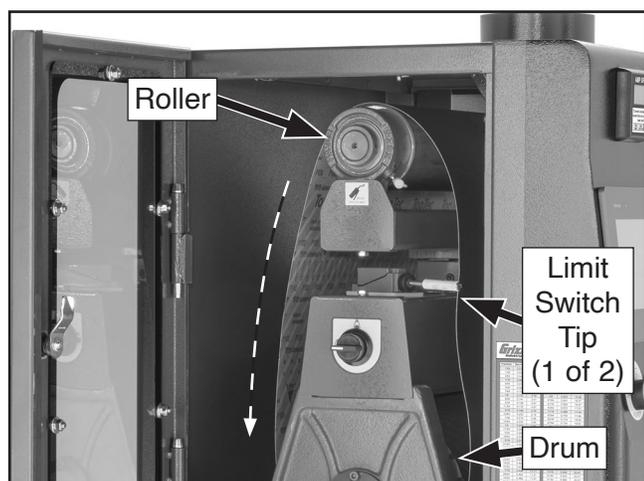
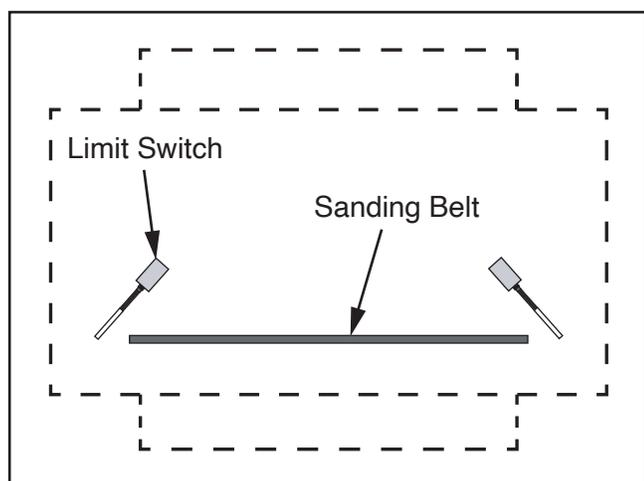

Figure 20. Sanding belt installed correctly.
Figure 21. Sander outline (top view) of proper position of belt.
10. Install desired sanding belt over roller and drum, starting with roller (see **Figure 20**).
Note: Sanding belt must be centered between limit switch tips (see **Figure 20–Figure 21**) and rotation arrows on sanding belt must be pointing in a counterclockwise direction, as shown with dashed line in **Figure 20**.